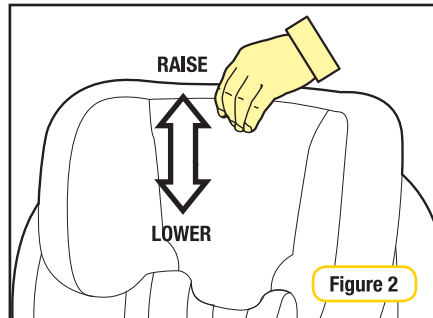

Figure 2
- Loosen harness to allow spreader plate to rise from under the restraint. Turn the restraint so that the back of the restraint is facing you (refer Figure 2 page 25).